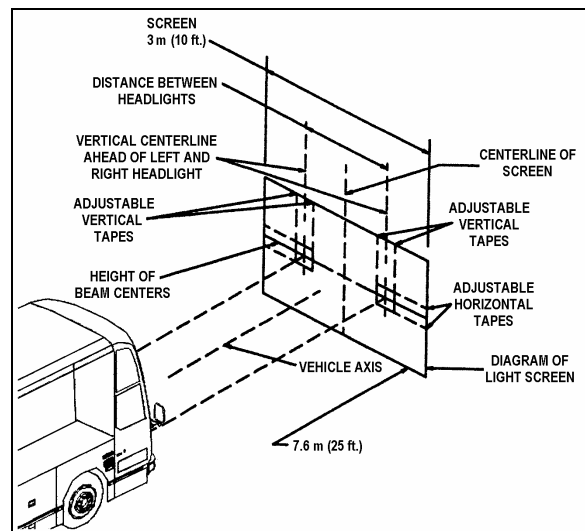

FIGURE 46: A LIGNMENT OF HEADLIGHT AIMING SCREEN
3. The headlight centerlines shall be spaced either side of the fixed centerline on the screen by $\frac{1}{2}$ the lateral distance between the light source centers of the pertinent headlights. The horizontal tapes should be located on the screen at the upper and lower limits called for in the specification with reference to the height of beam centers and the plane on which the vehicle rests, not the floor on which the screen rests (Figure 46).